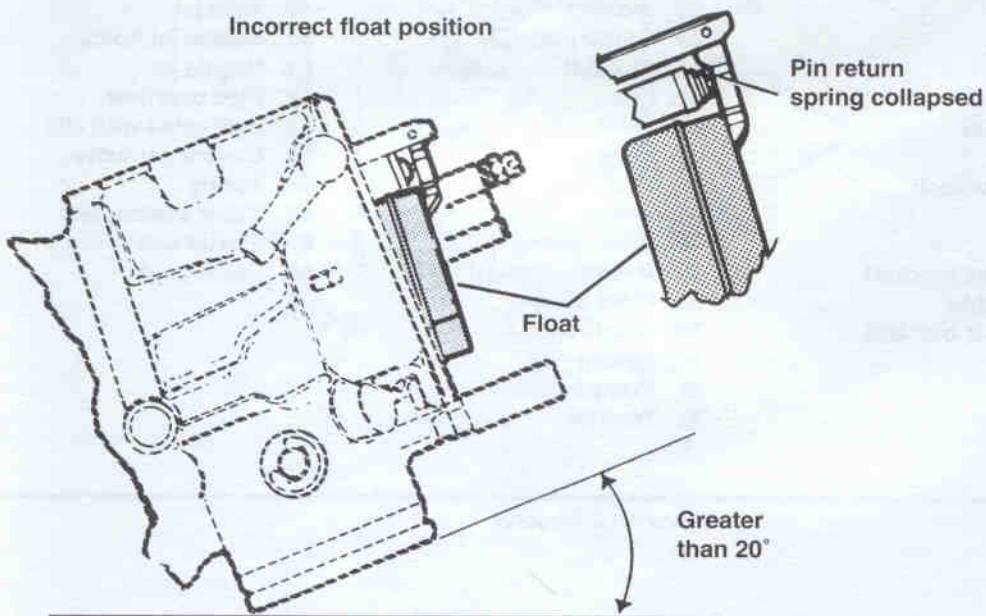

Figure 4-10. Float Adjustment
3. See Figure 4-10. Place the carburetor on a flat, clean surface on the engine manifold side. This is the "base". Tilt the carburetor 15° to 20° from base.